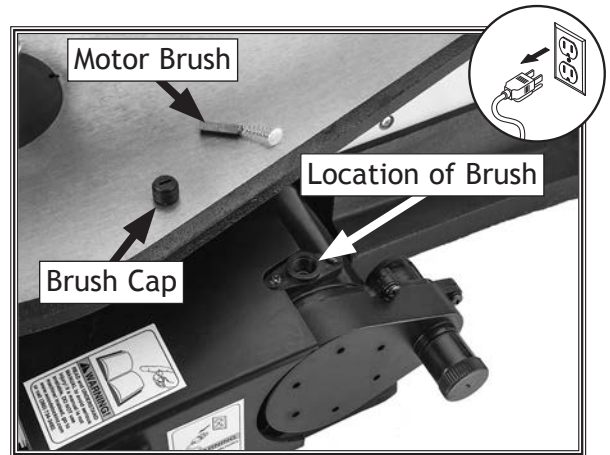

Figure 36. Upper motor brush location.
2. Remove upper motor brush cap and motor brush, as shown in **Figure 36**, then install new brush and replace cap.